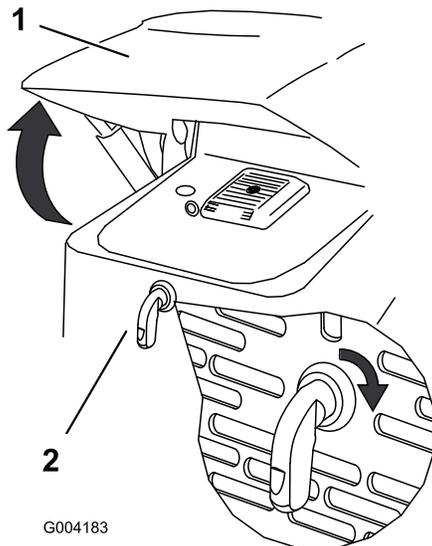

Figure 17
1. Turn the hood latch clockwise (Figure 17).
2. Swing the hood up (Figure 17).